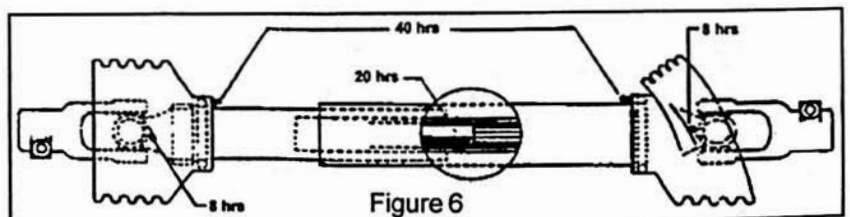

Figure 6
3. The splined generator input shaft should be cleaned and lubricated with a thin film of grease before and after each use of the generator. See Figure 6 for lubrication schedule.
4. The drive shaft (tumbling bar) requires greasing. Keep the universal joints in the coupling shaft free from grease and dirt buildup. See Figure 6 for lubrication schedule.